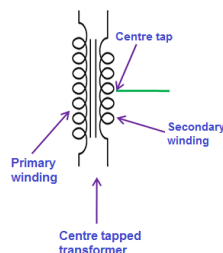

Figure NO.2: Center tapped transformer [1]
**Center tapped transformer:** when an additional wire is connected across the exact middle of the secondary winding of a transformer, as shown in Figure NO.2: